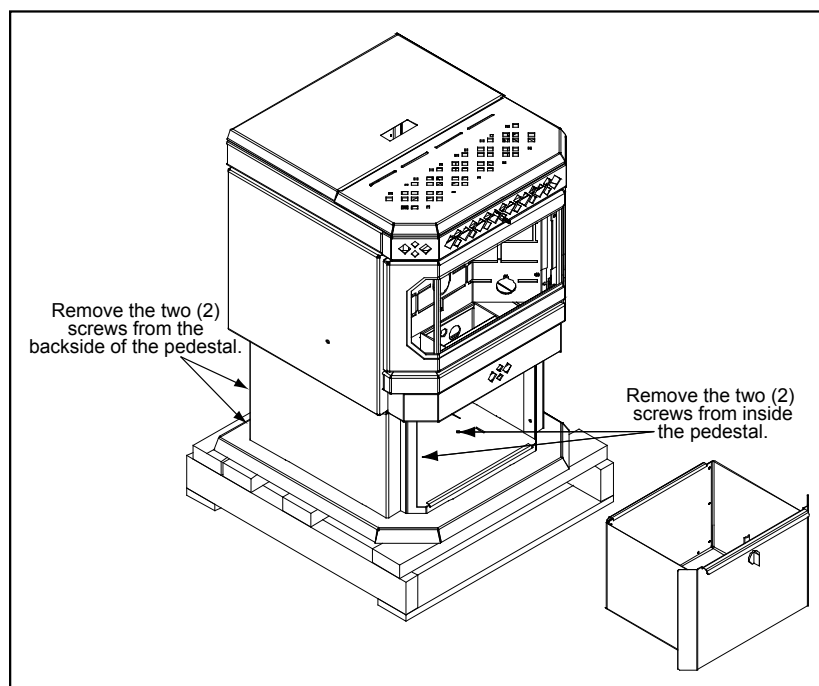

Figure 6: Screws to take out to remove freestanding unit from pallet.
FREESTANDING: To remove your new freestanding stove from its pallet, remove the ash pan and remove the two (2) wood screws inside this area as shown (see Figure 6). Also remove the two (2) wood screws on the back of the pedestal. Remove the unit from the pallet and replace the ash pan.